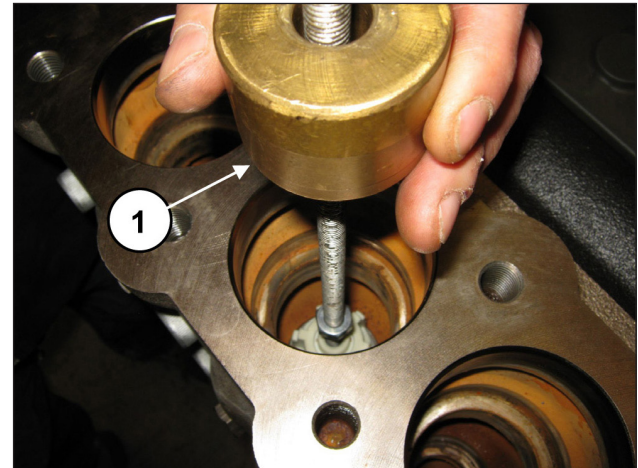

Fig. 107
Extract the suction valve unit with the use of an extractor hammer (code 27516400) to be applied on the M10 hole of the valve guide (pos. ①, Fig. 107) or, in addition, an M10-M16 adapter (code 25089700) to be attached to the M16 thread of the valve guide.